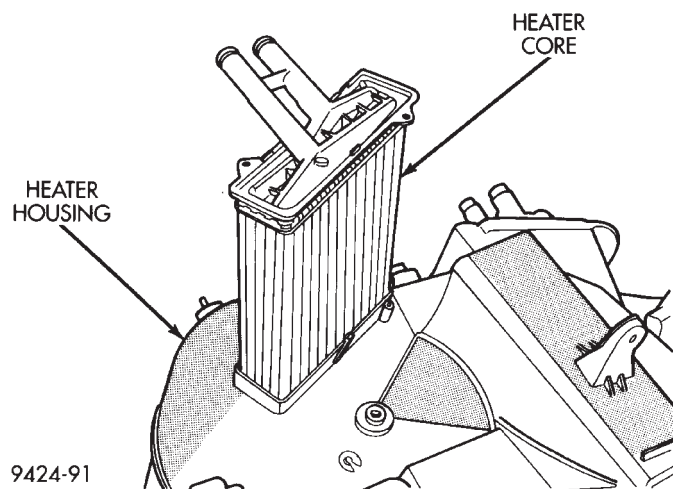

**Fig. 47 Heater Core Removal**
- (1) Disconnect battery.
- (2) Remove unit housing from vehicle. Refer to Unit Housing Removal and Installation in this section for procedure.
- (3) With the unit housing out of the vehicle, pull back heater core retaining clips. Then pull the heater core out of the heater housing (Fig. 47).